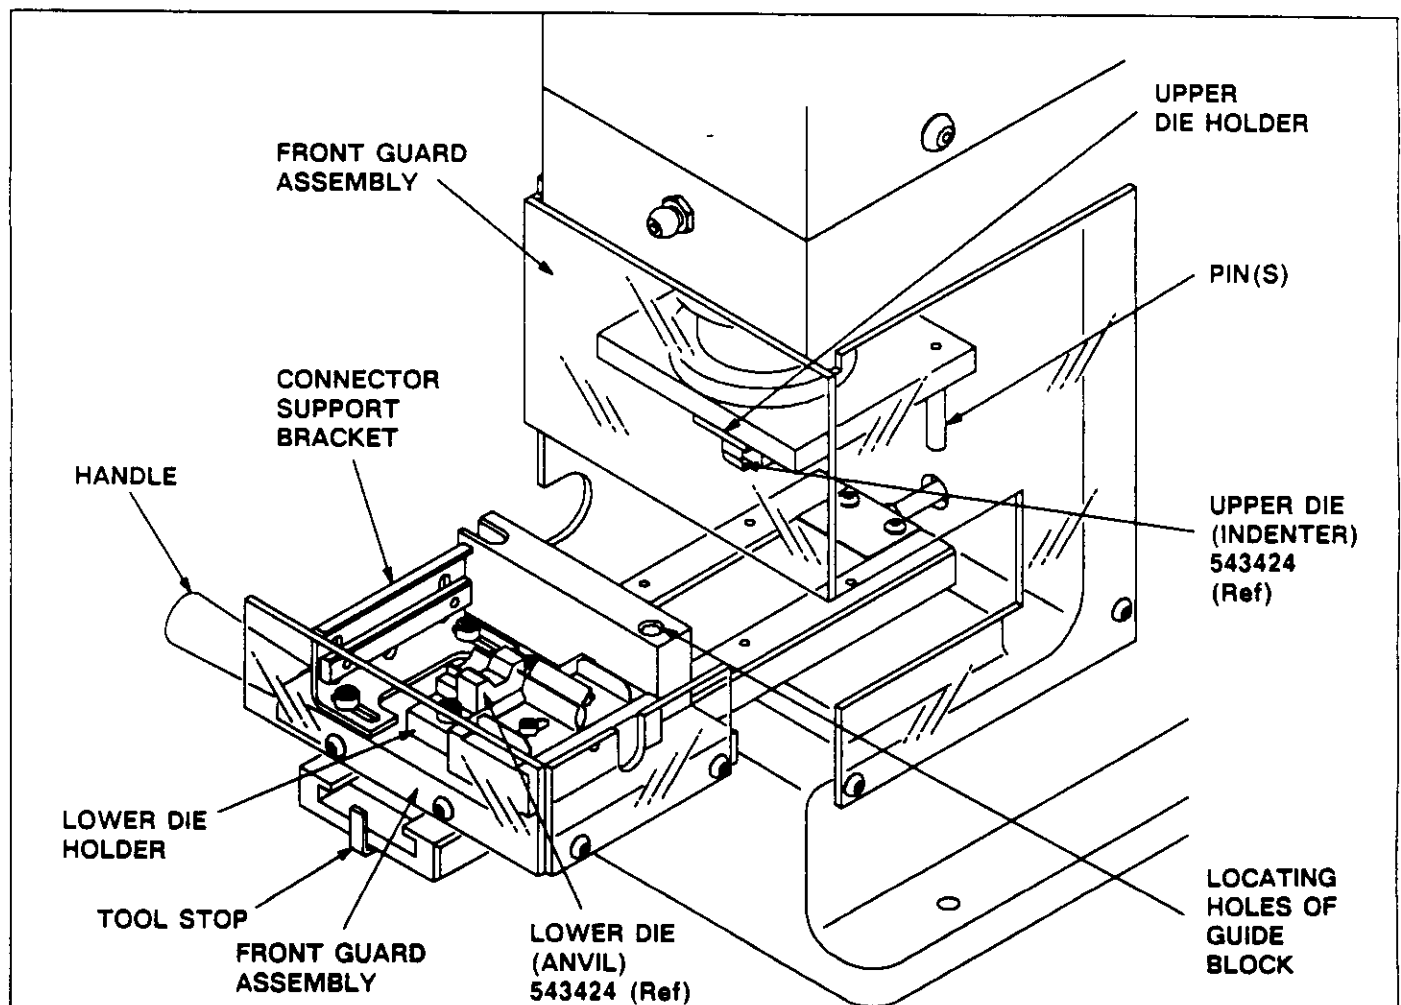

Fig. 3
4. DIE ASSEMBLY INSTALLATION AND REMOVAL (Figure 3)